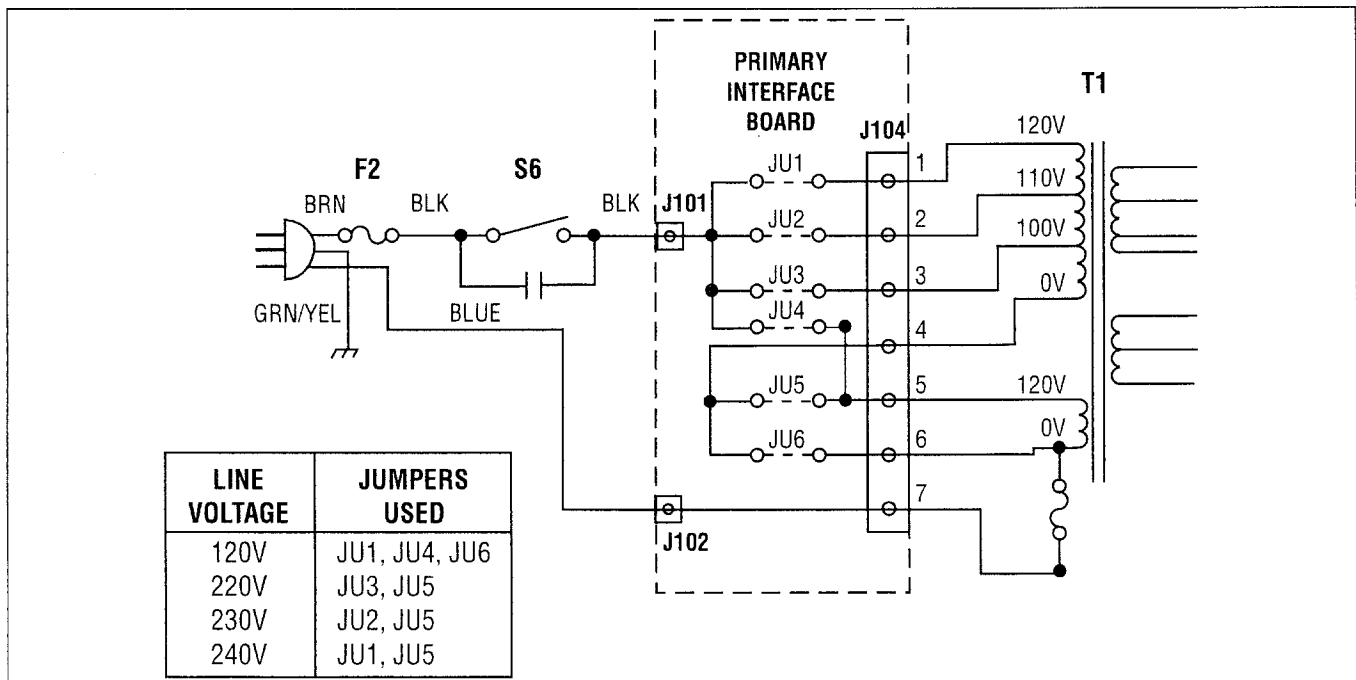

Fig. 1. Line Voltage Conversion, International Units
line voltage. Conversion from one line voltage to another is done by a simple wiring change as shown in Fig. 1.
3. Rewire the power transformer to the desired line voltage as shown in Fig. 1.